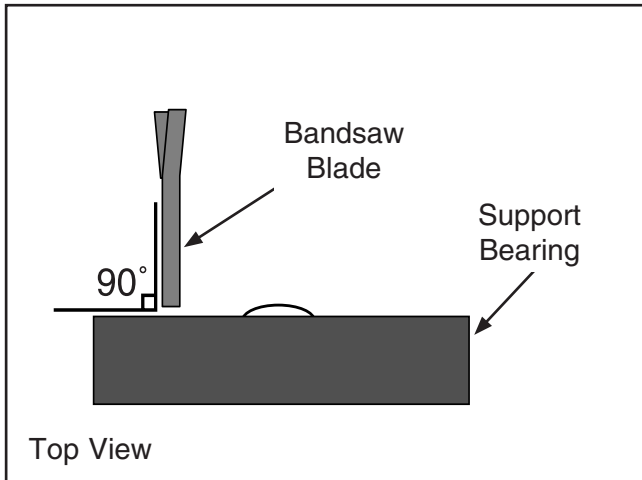

Figure 30. Blade should be perpendicular (90°) to the face of the support bearing.
5. Rotate the blade guide assembly side-to-side, until the blade is perpendicular to the face of the support bearing as illustrated in **Figure 30**.